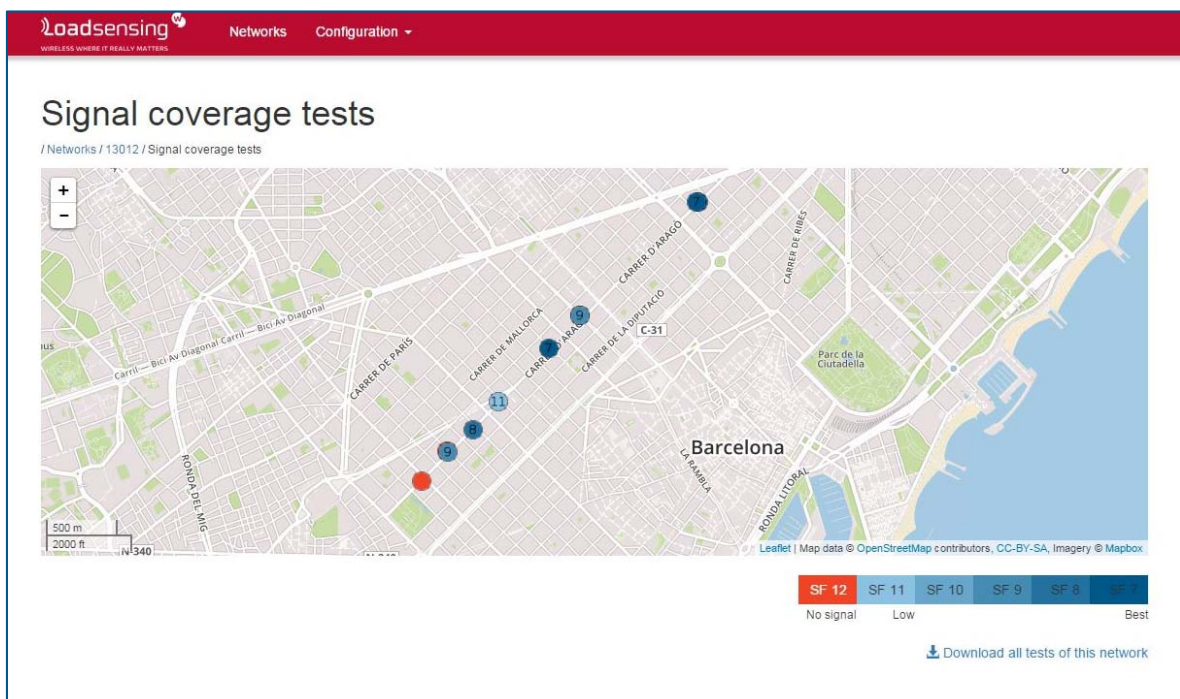

Figure 51: View of the geographical display (in the software of the gateway) indicating the results of the signal coverage tests.
- 2) They are also displayed geographically in the software of the gateway (Figure 51). In this case, your computer has to be connected to the Internet, to get the map. The position where the tests have been carried out is displayed with a specific symbol that related to the coverage at the specific point. The symbol selected (color legend) indicates the maximum SF from which >50% of the information packages sent by the datalogger have reached the gateway. In red, the places where $\leq 50\%$ of the packages of SF 12 are indicated. The gateway is also indicated in the map.
- 3) Moreover, the results of the signal coverage tests can be downloaded from the gateway in a .csv file (Figure 51, lower right corner). If the test is done "offline", the results only appear in this .csv.